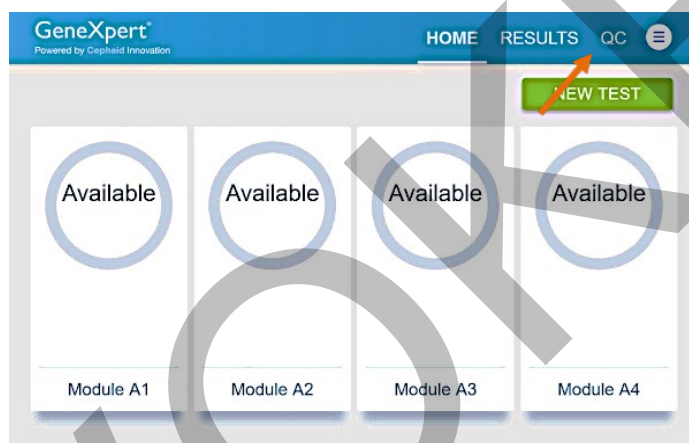

Figure 22. Home Screen
- If otherwise required by your institution's standard Quality Control (QC) procedures.
1. Put on a new pair of gloves if performing a new test. Touch the **QC** button on the Home screen (see Figure 22).